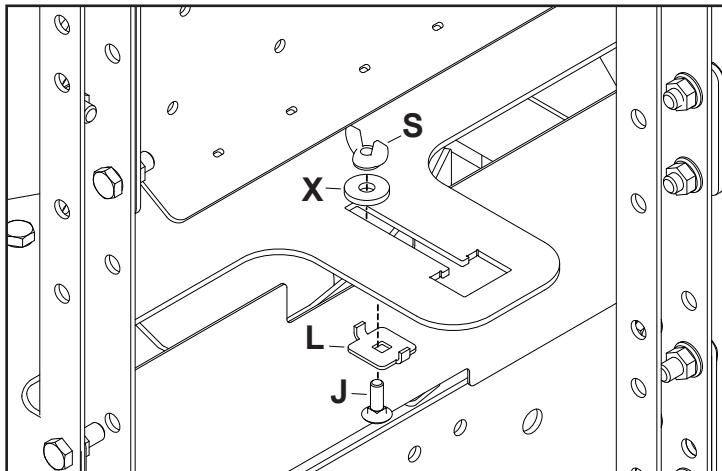

FIGURE 1
STEP 1: (SEE FIGURE 1)
- Install a 3/4" carriage bolt (J) into the adjustable stop (L).
- Install a 3/4" nylon washer (X) onto the carriage bolt (J) and secure with a nylon wing nut (S).